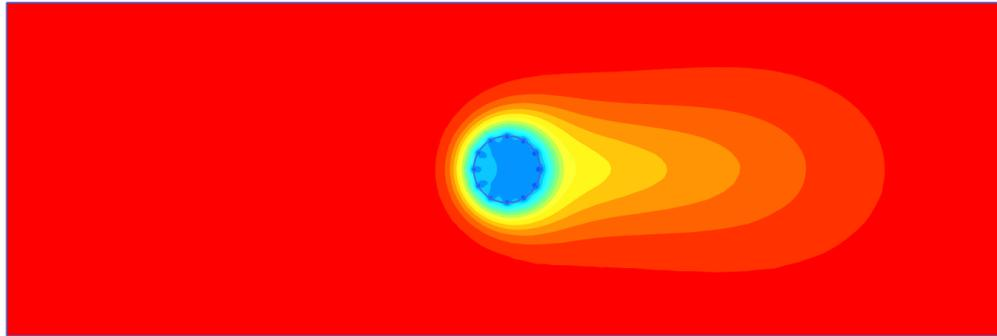

Figure 247: Temperature distribution for transient phase
3. Figure 247 (on page 280) shows the spatial distribution of the temperature for transient calculation in the final step. Note that the element contours have been switched off to better show that the temperature of the soil inside the tunnel is below freezing.